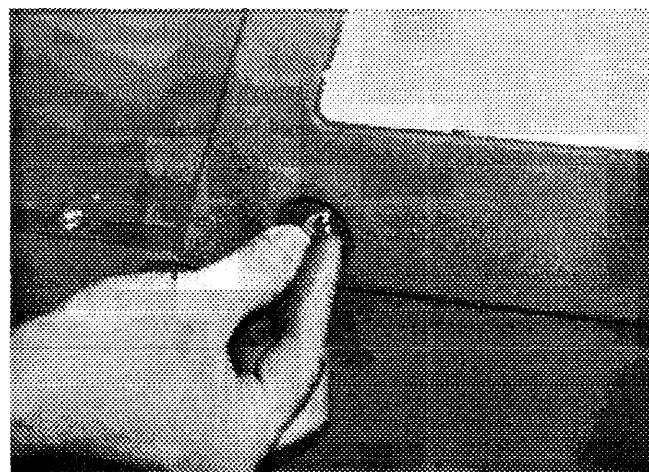

FIG. 17.
4. For machines with 305 amp batteries, to gain access to the 2 top rear battery cells, remove the 2 acorn nuts holding the console to the frame (Figure 17). Tip the console back on the hinge to access these cells.